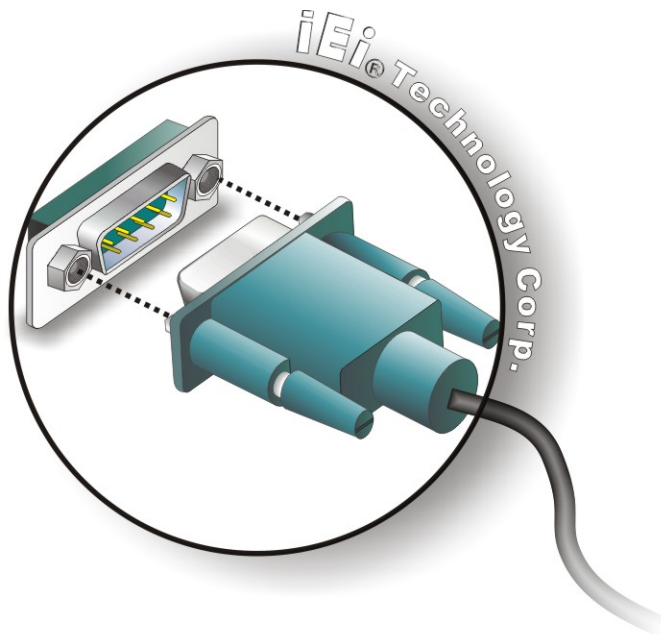

Figure 4-19: DB-9 Serial Port Connector
Step 2: Insert the serial connector. Insert the DB-9 connector of a serial device into the DB-9 connector on the bottom panel. See **Figure 4-19**.